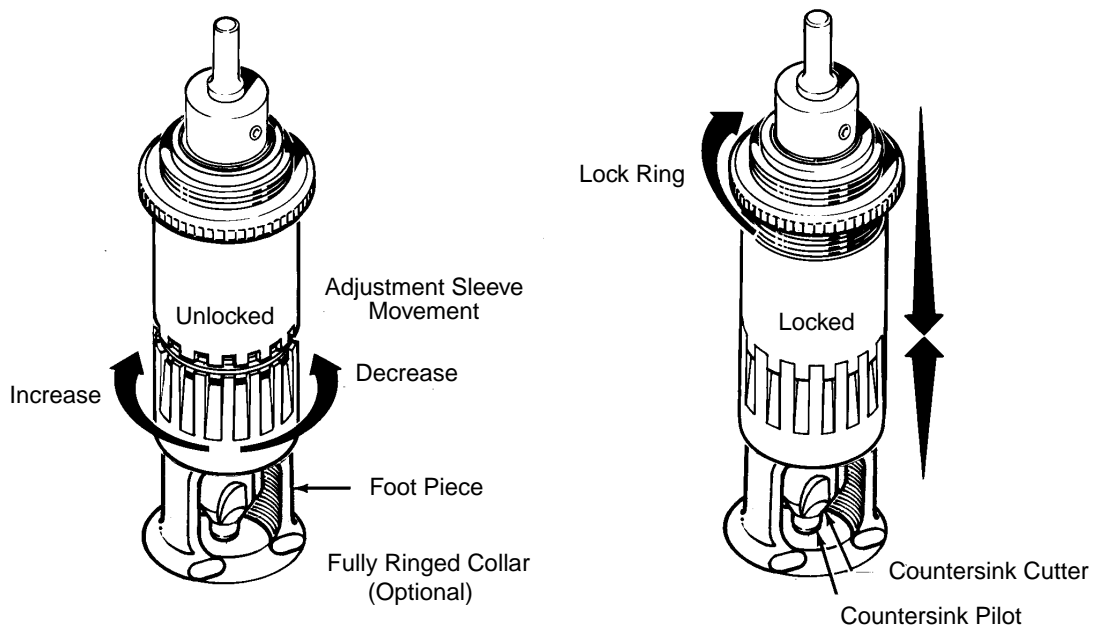

Figure 1 - Micro-Stop Countersink Cutter Assembly
- 5.3.1 Micro-stop countersinks can be adjusted, as required, to either increase or decrease the size of the countersink as follows (see Figure 1).